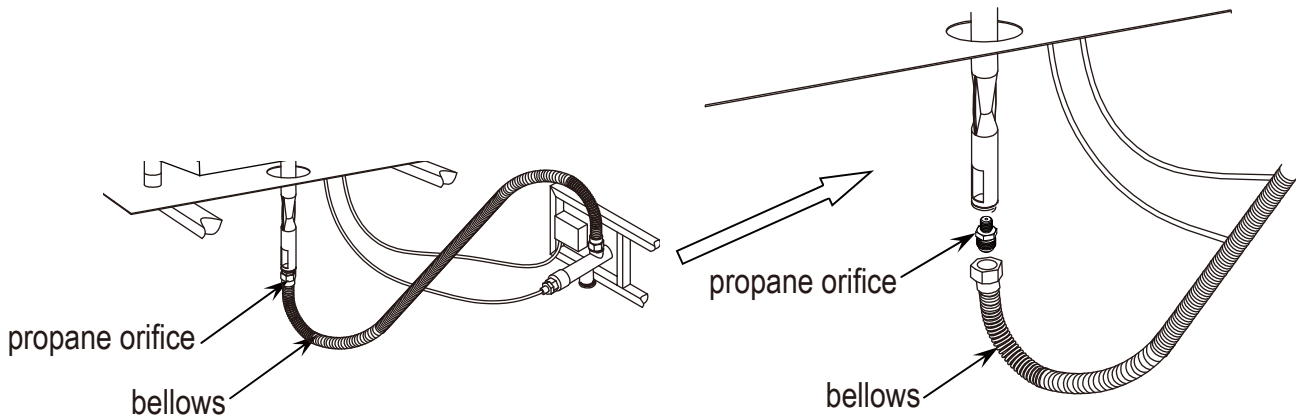

Figure 12
2. Unscrew and disconnect the propane orifice from the bellows (see Figure 12). Propane orifice (2.21 mm diameter size) is painted with red mark.
Make sure the control knob is in the “OFF” position. Unscrew the push button cap on the ignitor module located on the control panel to access the battery compartment. The ignitor module requires one AAA size battery (see Figure 12), BATTERY IS NOT INCLUDED.